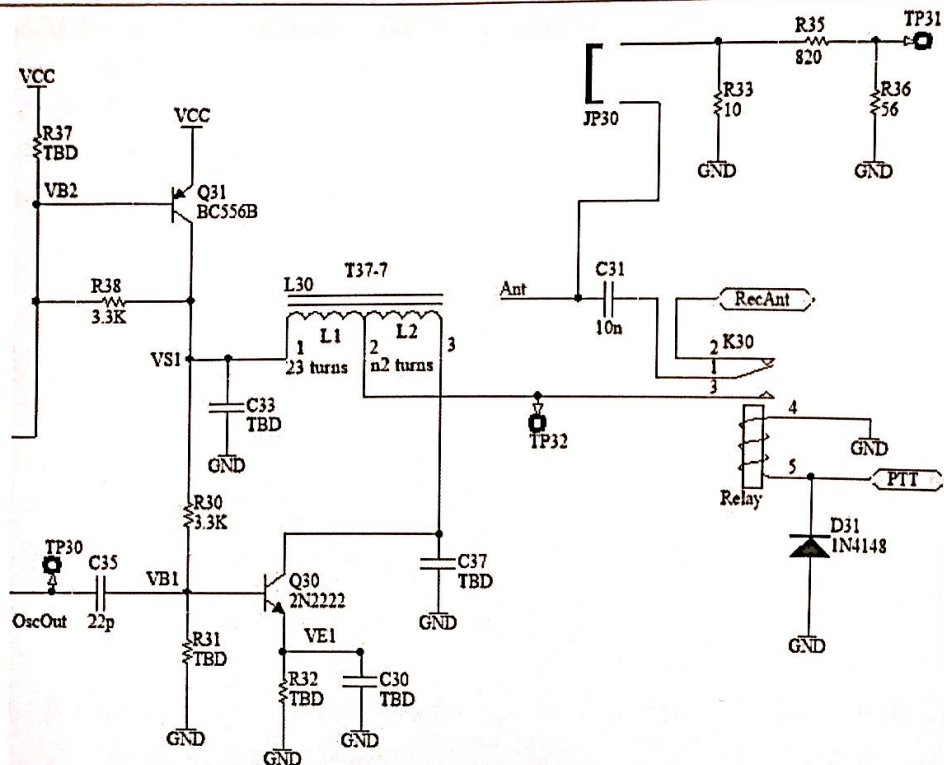

Figure 5: Schematic of transmitter amplifier.
- The tuned RF amplifier to be mounted is the transmitter (TX) amplifier operating at 27 MHz. This circuit is given in Fig. 5. L30 is a tapped inductance. The number of turns of L2 is determined in the preliminary work. It is supposed to transform the impedance of 10Ω to the optimum load resistance of the transistor. Cut 40 cm of 0.35 mm *enameled* wire to wind L1 and L2 on the T37-7 toroid. T37-7 is a core with an outer diameter of 0.37 inches or 9.4 mm (see p. 382). The windings should be single-layer without scrambles. Randomly wound coils do not perform well. The increased capacitance between the windings has a detrimental effect on the inductance performance. Count the turns of